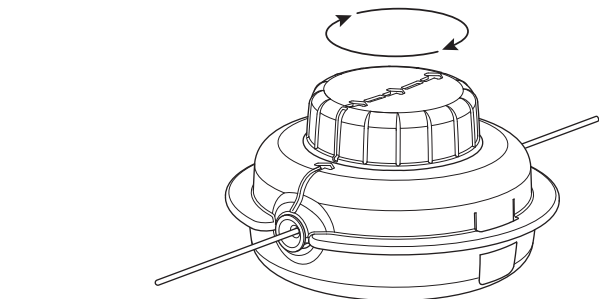

Fig. 15
- Turn the bump knob clockwise to wind the line until about 5 inches (12.7 cm) protrude from each side of the cutting head (Fig. 15). **DO NOT** push the bump knob down while winding the line. **DO NOT** align the arrows when the line winding is complete.